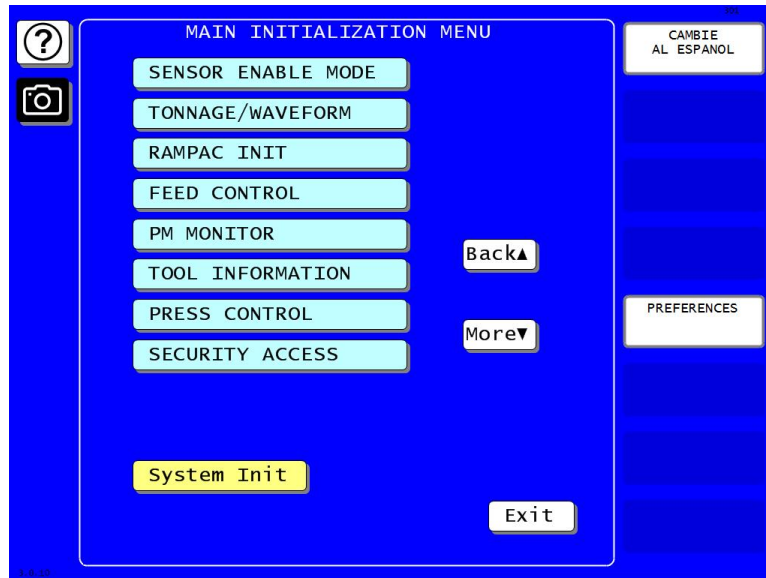

Figure 3-2. Main Initialization Menu
To initialize all parameters, see *Initializing WPC 2000 Parameters During Installation*, page 34. See your SmartPAC PRO User Manual for other Initialization settings, which are entered via the Main Initialization Menu (see Figure 3-2, page 45).
1. Enter Initialization Mode by pressing INITIALIZATION MENU on the Main Program Menu screen. The Main Initialization Menu screen appears (*Figure 3-2*).